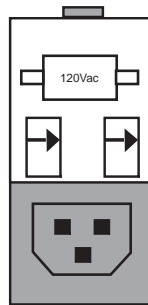

Figure 5-7. Fuse Replacement, Step 4
4. Gently twist the screwdriver until the *upper* portion of the power connector assembly opens, exposing the voltage selector cam and fuse holders. See Figure 5-7.